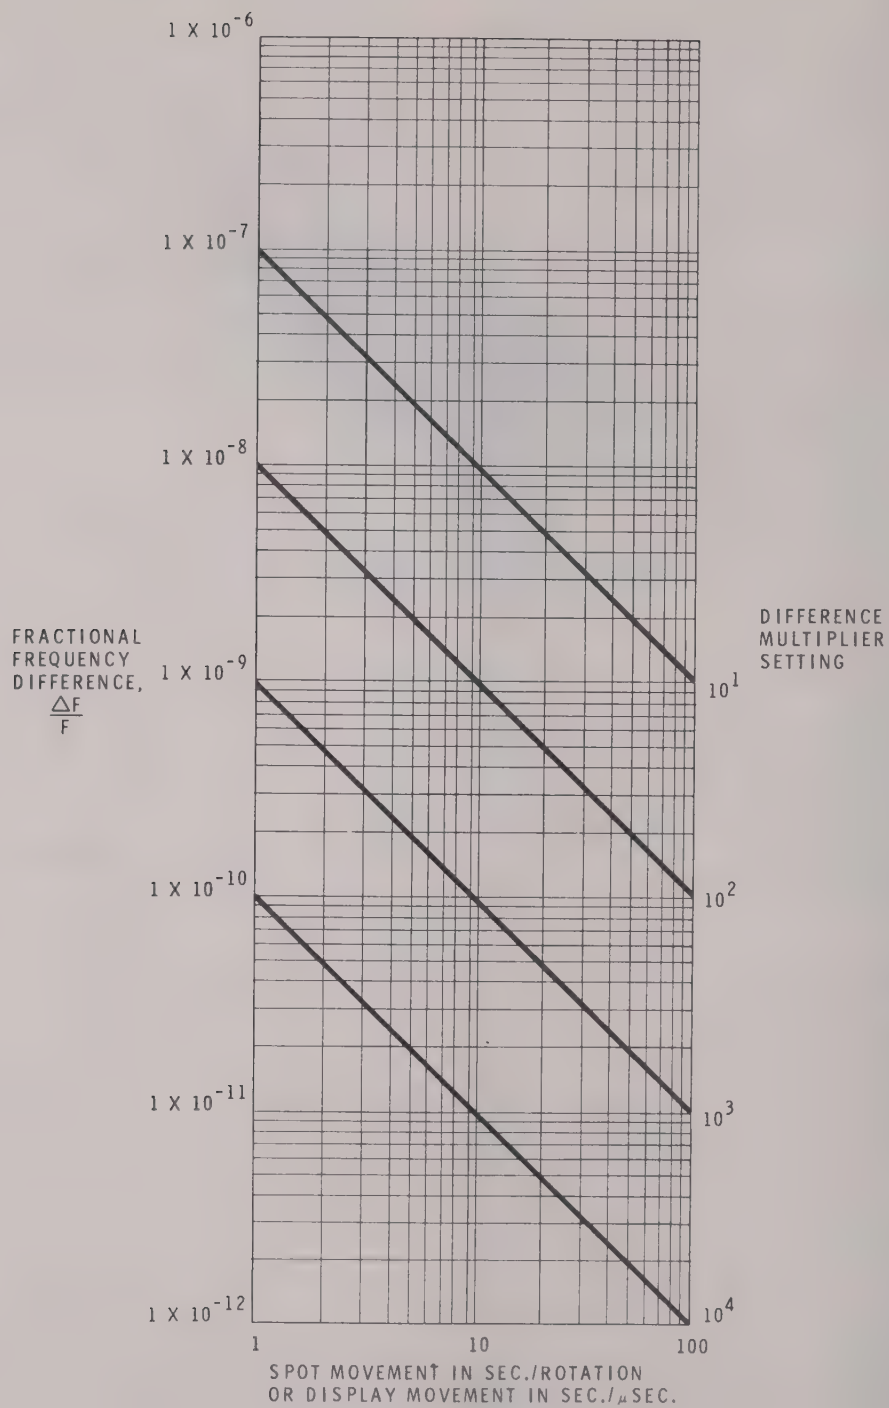

Figure 3-3. Fractional Frequency Difference vs Display Movement in μ sec/sec or Spot Rotation in rotations/sec
c. Frequency offset may be read by timing revolutions of the oscilloscope trace and by application of the graphs in figures 3-3 and 3-4. For rapid calculations without reference to these graphs, recall that the internal oscilloscope display is a real-time graph of $\sin M \Delta F$ vs $\cos M \Delta F$, where M represents the setting of the DIFF MULT switch.